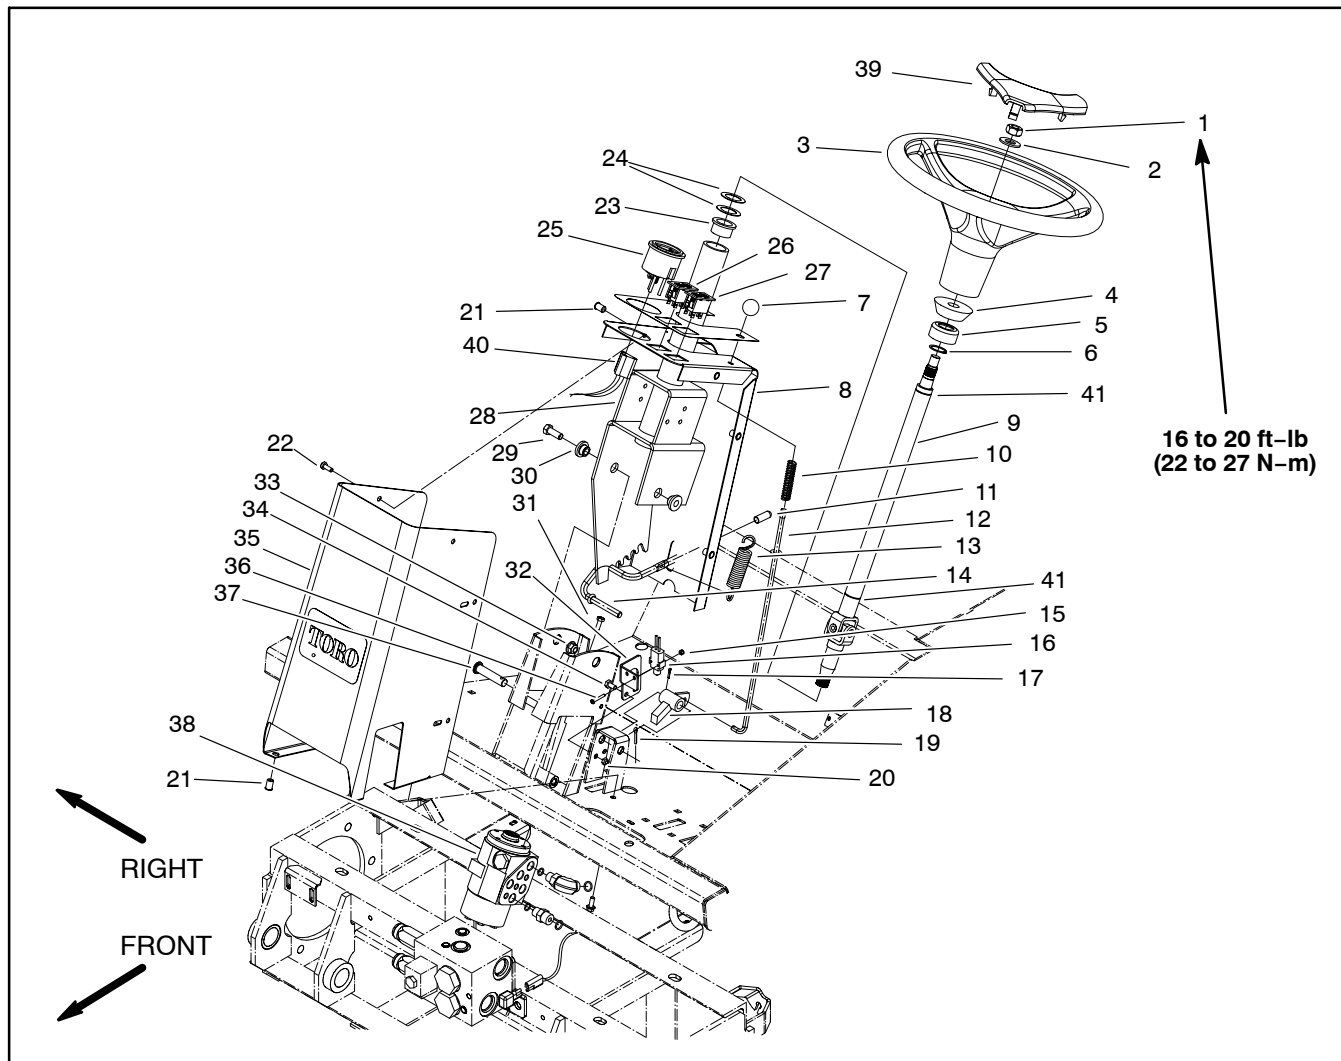

Figure 1
Disassembly (Fig. 1)
2. Disassemble steering tower as needed using Figure 1 as a guide.
Assembly (Fig. 1)
1. Assemble steering tower using Figure 1 as a guide.
- A. Thrust washer(s) (item 24) on steering column are used as needed to remove end play of steering shaft.